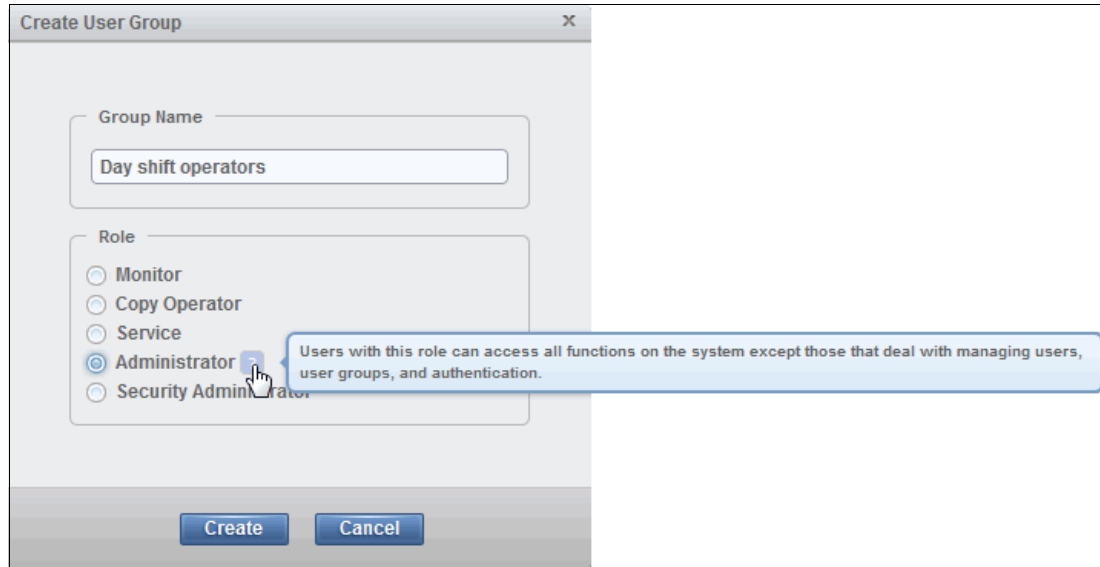

Figure 3-91 Create User Group pane
2. Enter the group name, select the role, then click **Create**, as shown in Figure 3-91.